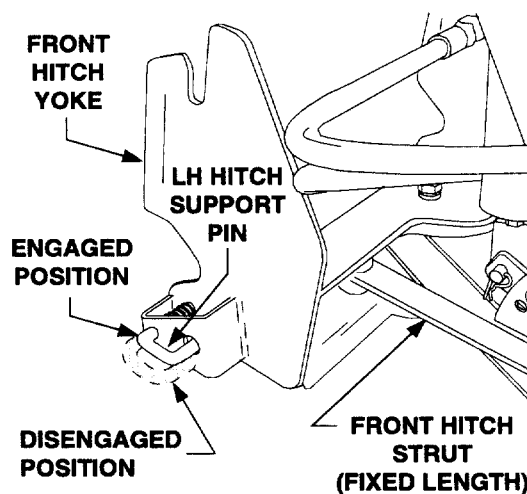

Figure 11
If the Hydraulic Angling Kit (190-288-100) is installed on the front hitch, accidental actuation of the angling system could result in damage to the snow thrower and/or tractor. Whenever the snow thrower is installed, it is recommended that the angling cylinder be removed and replaced by either the standard front hitch strut (See Figure 11) or the manual angling kit (190-171), set in the center position. The following step 1 applies *ONLY* to units equipped with the hydraulic angling kit.
4. Make certain the support pins at the bottom of the front hitch yoke are in the engaged position (through holes in yoke). See Figure 11.
3. Pull the hitch support pins outward and rotate to lock in the disengaged position. Refer to Figure 11.